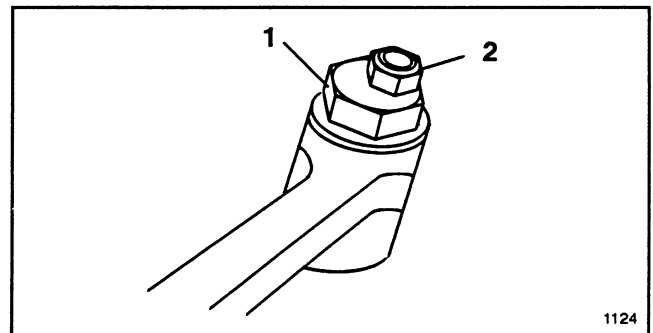

Figure 3
3. Loosen lock nut on adjustment cam (Fig. 3).